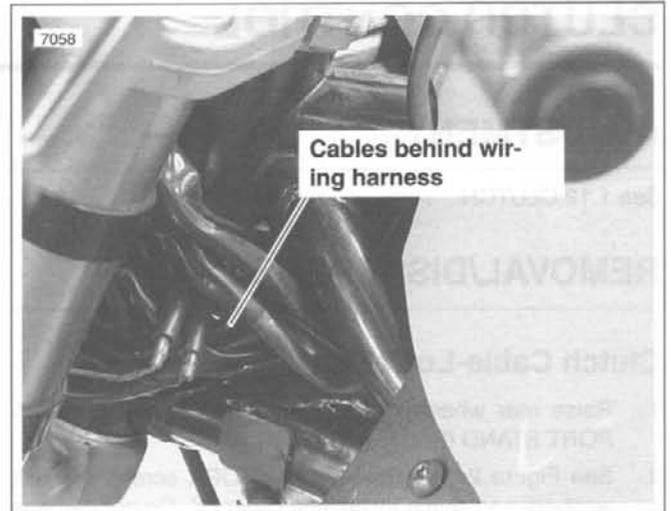

Figure 2-129. Steering Neck Routing
- b. See Figure 2-129. Continue between the left side of frame steering head and left frame tube. Cables should be above and to the left of the D-shaped washer behind the steering head.